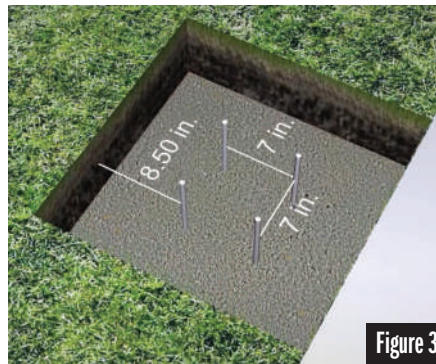

Figure 3
STEP 4: Fill the hole half way with concrete and evenly space rebar in the dimensions shown in Figure 3. *Note: Rebar is added to help reinforce & strengthen the concrete.